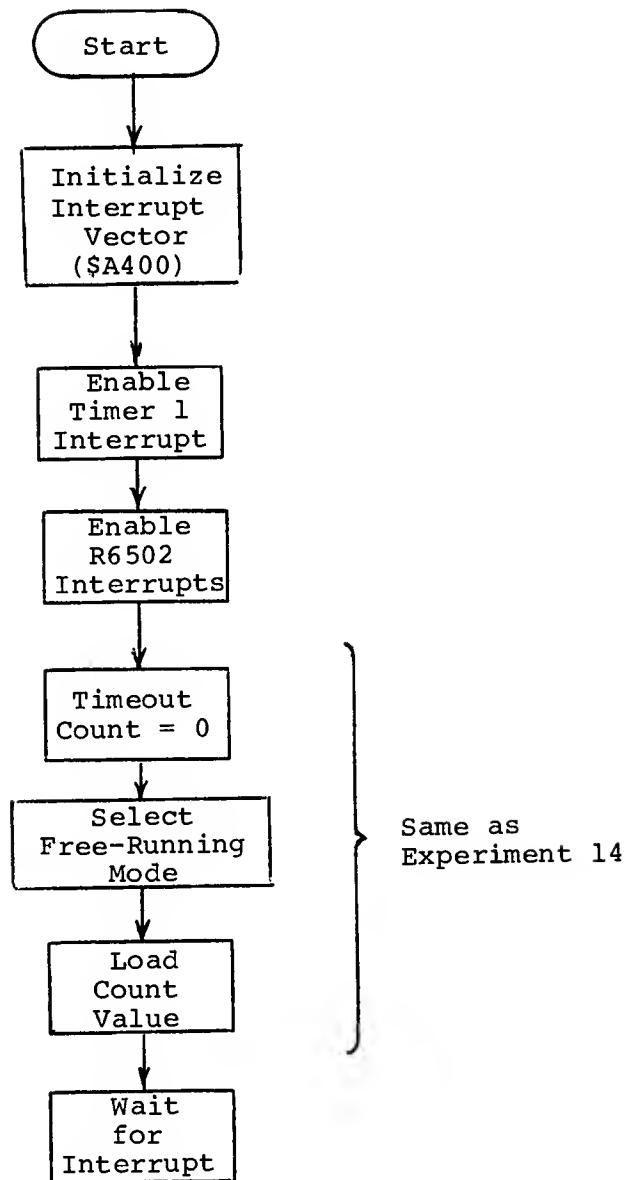

Figure 15-4. Flowchart for Main Timing Program
1. As in Experiment 14, you are to write a program that measures elapsed time until you press Reset on the AIM 65. The time must be accurate to 1/100 of a second (10 milliseconds). The time count, in memory, is incremented each time Timer 1 times out. Unlike Experiment 14, however, updating the time count must be performed by an interrupt service routine. Figures 15-4 and 15-5 are flowcharts for the main program and its interrupt service routine.